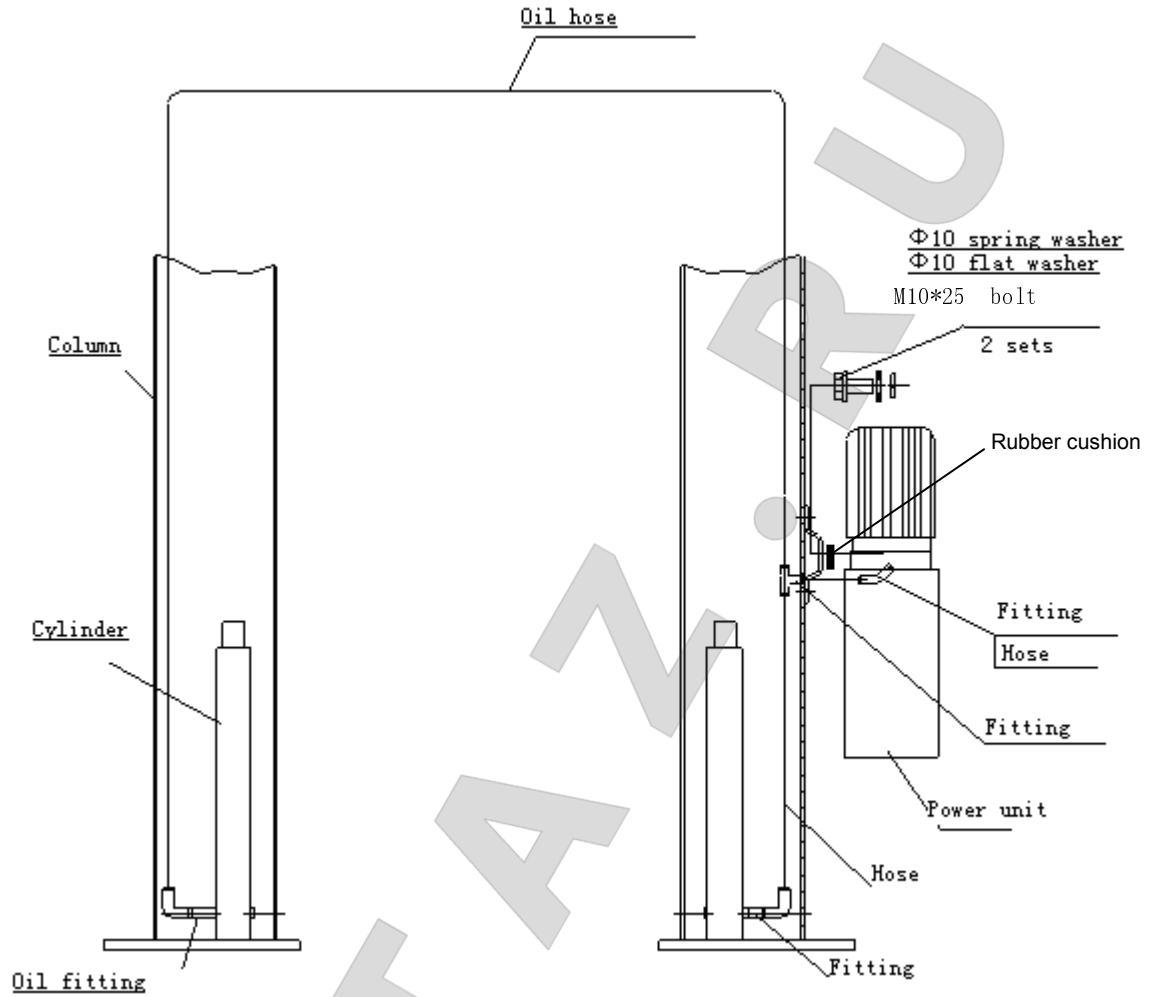

Fig. 14
- Use two M10 bolts and washers to fix the power unit (as shown in Fig. 14). for TLT240SC models, install the hydraulic line as shown in Fig.14 and tighten all the fittings to prevent oil leakage.